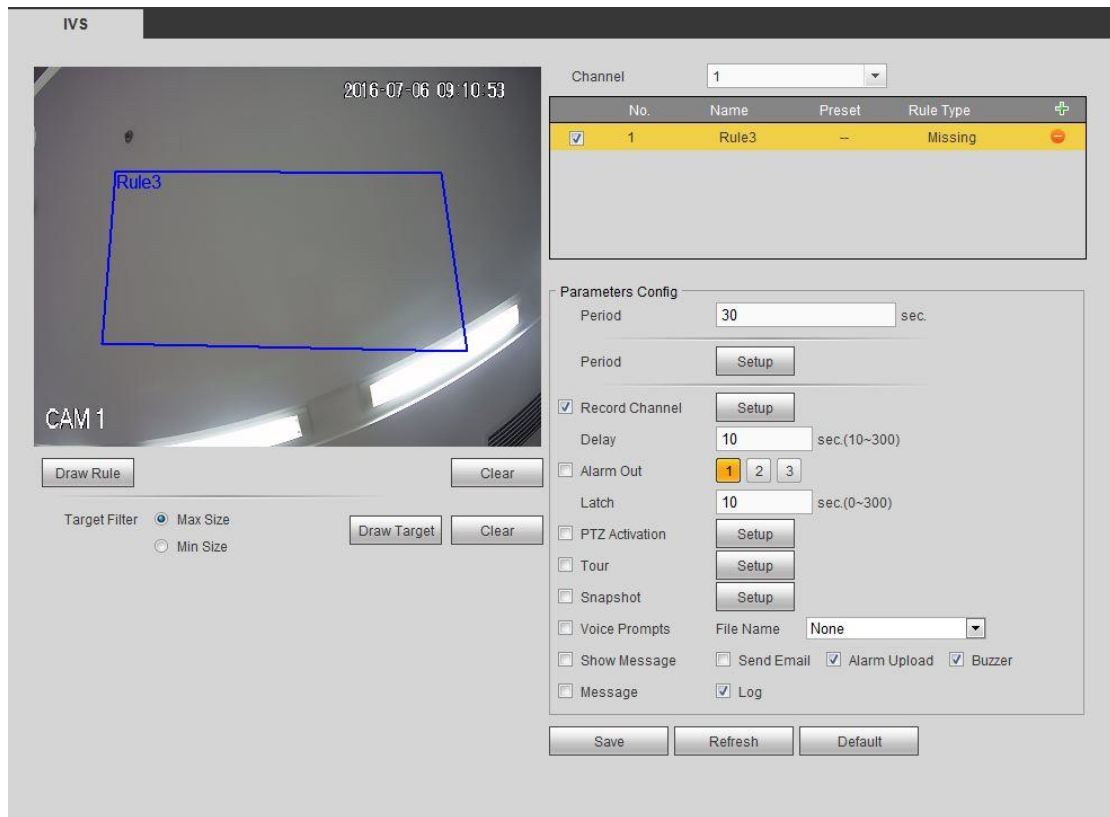

Figure 5-91
Step 3 Click Draw rule button and then left click mouse to draw a zone. Right click mouse to complete. See Figure 5-91.